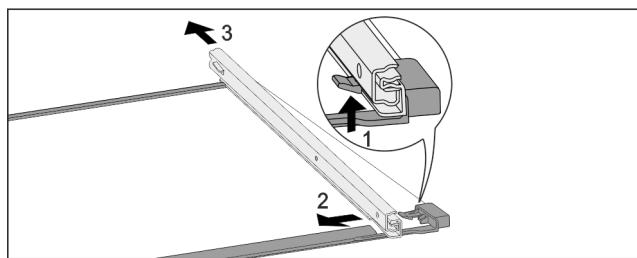

Fig. 110 Glass shelf with rails
- ▶ Push up front click-in hooks. Fig. 110 (1)
- ▶ Move the pull-out rails to the side Fig. 110 (2) and to the rear Fig. 110 (3).